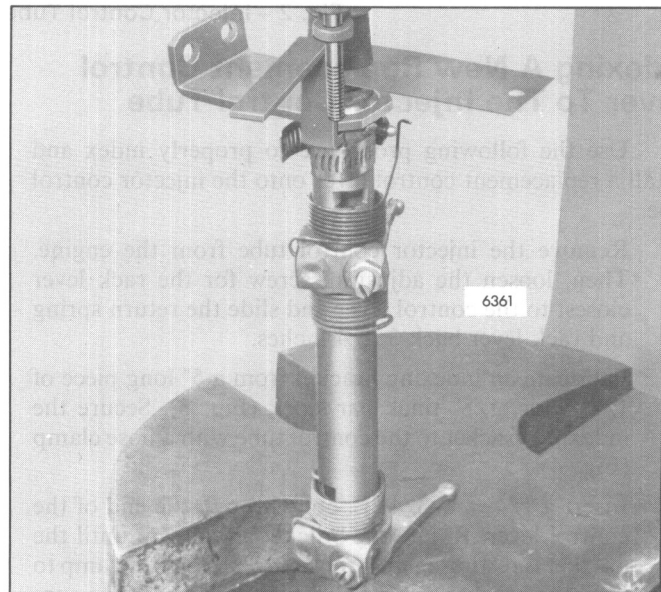

Fig. 6 – Installing New Lever
5. Reinsert the 1/4" x 1-3/4" L. bolt through the end of a new lever and press the lever onto the control tube with the bolt resting against the indexing bracket (Fig. 6). Place a .011" feeler gage under the lever to get proper clearance between the lever and the spacer on the control tube. Before pressing on the lever, make sure the opposite end of the control tube is supported.